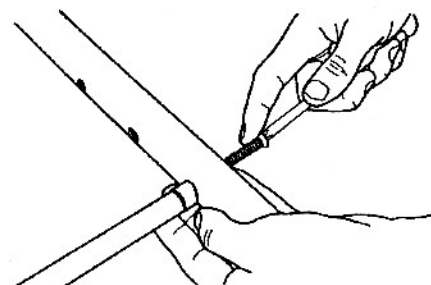
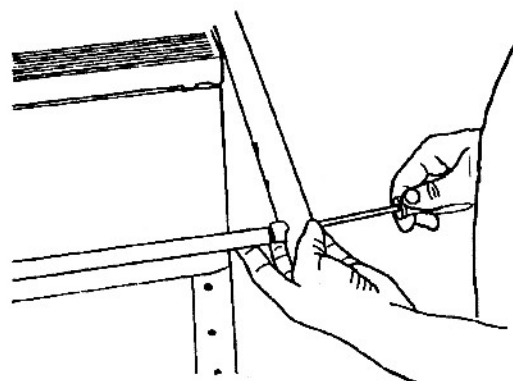

Fig. A-15
Fig. A-16
19. While holding the screw to the screwdriver, insert the screw through the hole in the fence tube, as shown in Fig. A-15. (If the screw falls into the fence tube, retrieve it with a magnet.) Thread in the screw, as seen in Fig. A-16, and tighten.